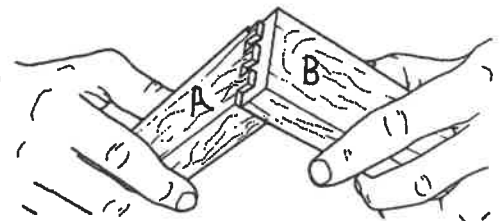

Fig. D-26
18. When you have completed making pins and sockets, fit the two workpieces together. Notice that in Fig. D-26 the pins in workpiece "A" are not flush with workpiece "B". Lower the bit back to "0" on the scale.